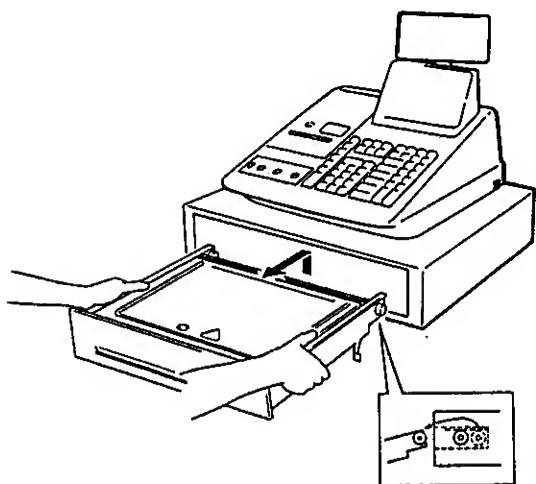

Fig. 3
1. Pull the drawer out, and when it stops by the stopper, lift the drawer up and pull it again (Fig. 2). When it stops again by the roller fixed in the drawer case, lift it and pull it again (Fig. 3).